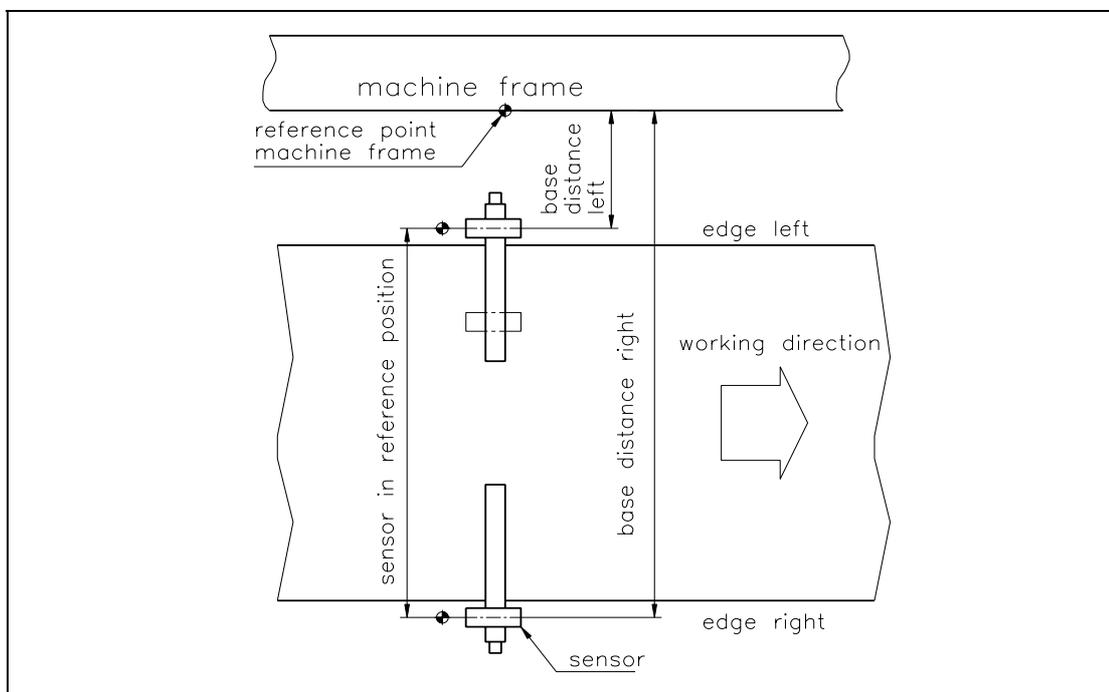

fig. 21: Base distances and reference point when using linear units
With or without linear units a reference point can be defined. Then, all position values will refer to this reference point. The reference point can be on the machine frame, for example (fig. 21).
- In parameter *Base distance left* set the distance between reference point (i.e. machine frame) and axis of left sensor (fig. 21).
- In parameter *Base distance right* set the distance between reference point (i.e. machine frame) and axis of right sensor (fig. 21).
The reference point must always have a greater distance to the web edge than the sensor has (fig. 21).
If measuring from a reference point is not needed, the parameters *base distance left* and *base distance right* have to be set to Zero. In this case, the position values are referring to the sensor positions. If linear units are used, the position values are referring to the reference positions of the linear units (fig. 21).